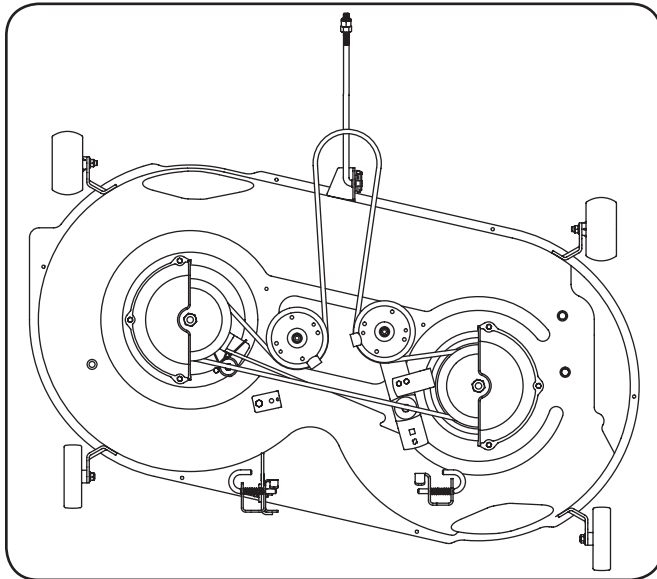

Figure 7-7
5. To place the new belt, begin by routing the belt around the two outer spindle pulleys as shown in Fig. 7-7.
6. Then route the belt around the two deck idler pulleys as shown in Fig. 7-7.